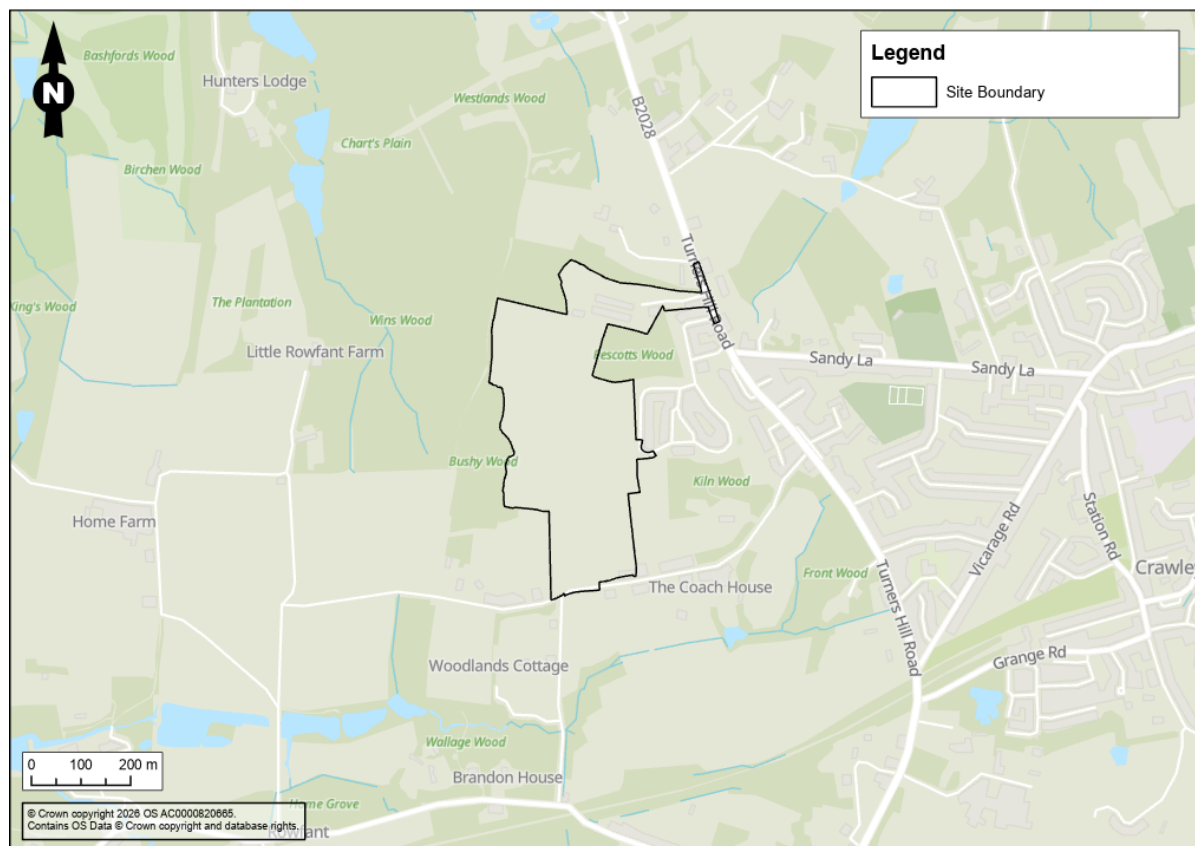

Figure 1: Site Boundary
- 2.1.1 The site is located in Crawley Down adjacent to Turners Hill Road (B2028). It is centred on approximate OS Eastings/Northings (E/N): 533517E, 137794N at postcode RH10 4HB (Figure 1).